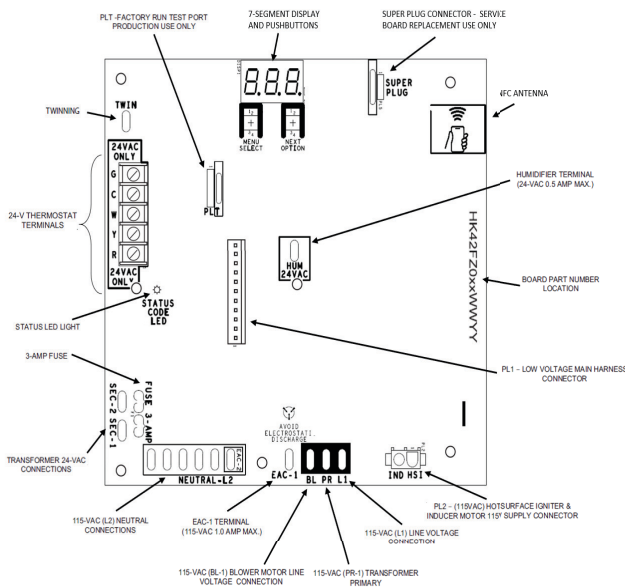

Fig. 15 – Single-Stage Furnace Control
6. Jumper R-W thermostat connections on control. See Fig. 15.
1. Jumper R and W thermostat connections to call for heat. See Fig. 15.